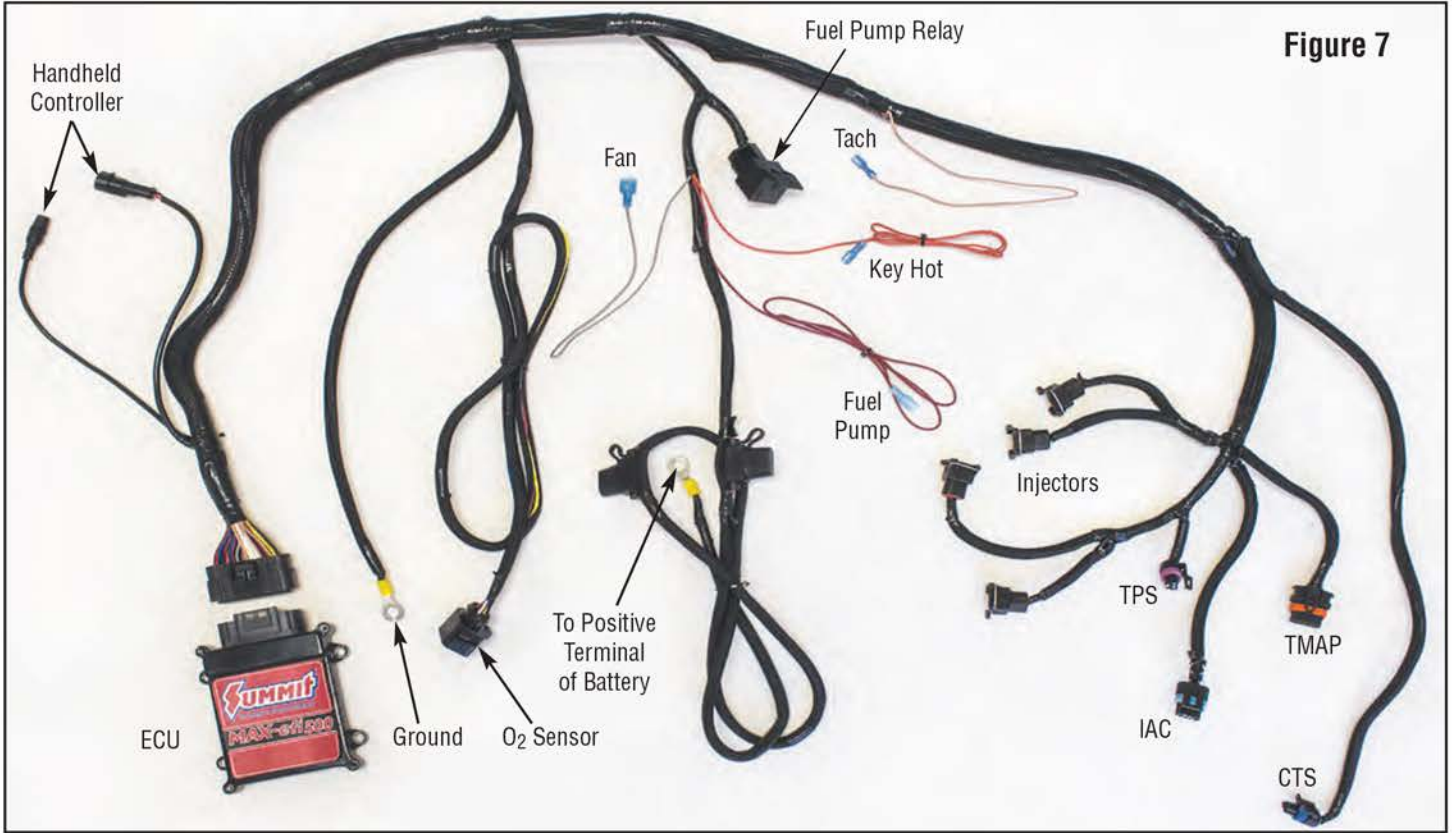

Figure 7
2. The Sensor connects to one of the cables in the main wiring harness. See Figure 7 on next page.
10. Connect the O₂ sensor to the sub-harness that connects to the throttle body. See Figure 7.
See Figure 7. Snap the connectors on the harness onto the individual injectors with the silver wire bar facing down. Make sure the connectors are securely fastened.
modifications made to wiring can only be made on wires listed in Wire Chart Figure 16 on the next page such as extensions or cuts. Any modification of the ECU main harness (see Figure 7) other than these listed wires will result in a VOIDING of the Summit warranty.